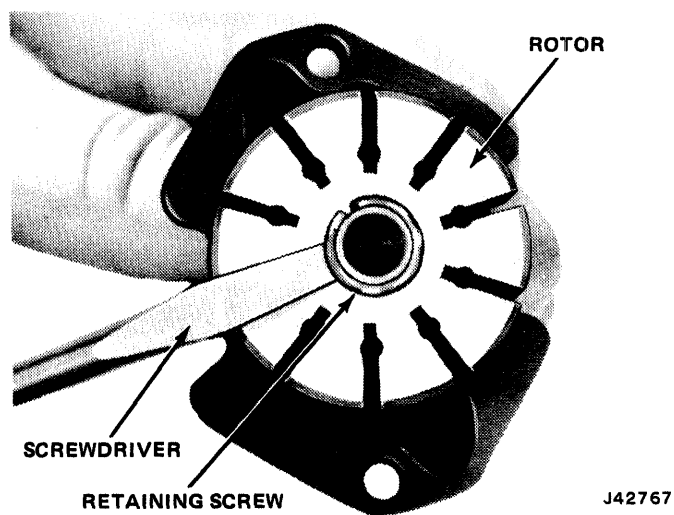

Fig. 11-101 Removing Rotor Retaining Ring
(16) If shaft and rotor assembly must be disassembled, use screwdriver to remove retainer ring and separate parts (fig. 11-101).
(17) Remove and discard pressure plate O-ring seal.
(18) Remove shaft seal by prying out with small screwdriver.